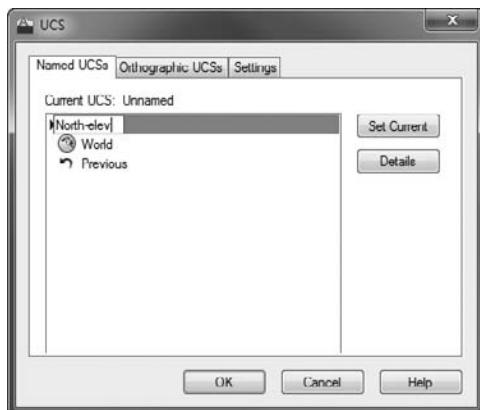

FIGURE 10.42 The UCS dialog box
9. From the UCS dialog, click the Named UCSs tab, and then click the current UCS name (currently named Unnamed) once to enter the highlight the text. Then enter North_elev.*J* (see Figure 10.42).